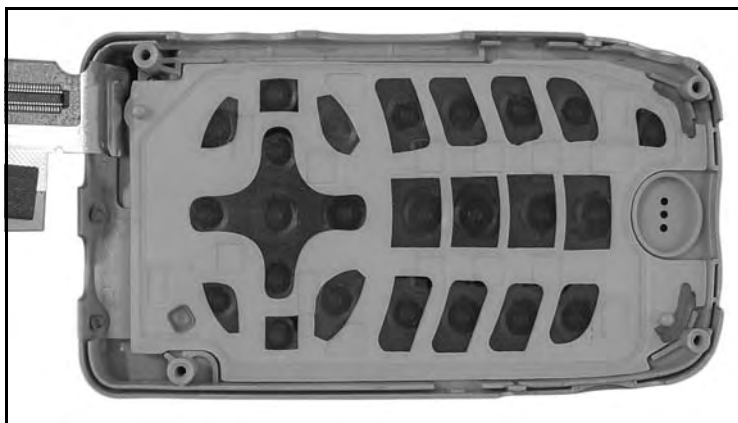

Figure 7-9.
3. Remove keypad by peeling away from bosses (see Figure 7-9).